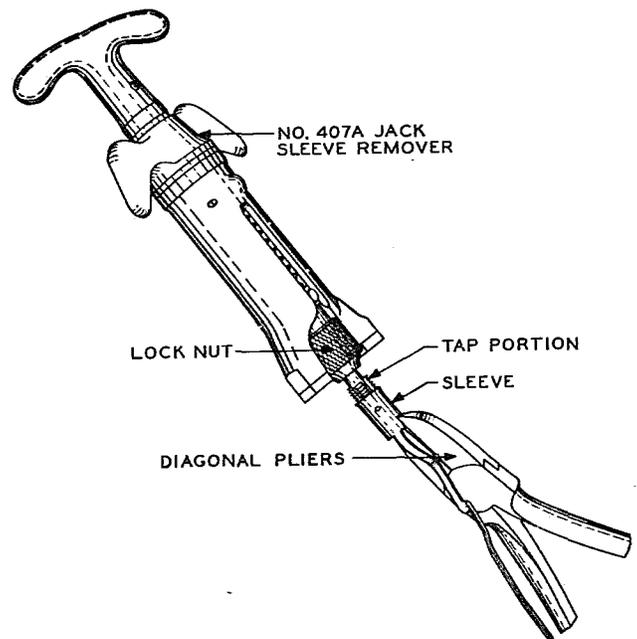

FIG. 11 - METHOD OF REMOVING SLEEVE FROM NO. 407A SLEEVE REMOVER
3.23 To remove the sleeve from the tap portion of the No. 407A sleeve remover first back off the lock nut and remove the sleeve by grasping it firmly with the diagonal pliers, as shown in Fig. 11. Turn the tap in a counter-clockwise direction until the sleeve has been removed.